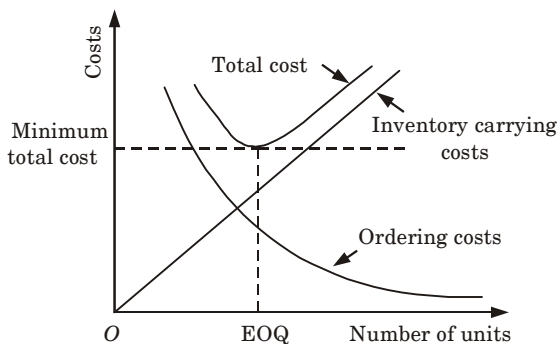

Fig. 3.22.1.
6. It is evident from Fig. 3.22.1, that the minimum total cost occurs at the point where the ordering costs and inventory carrying costs are equal.